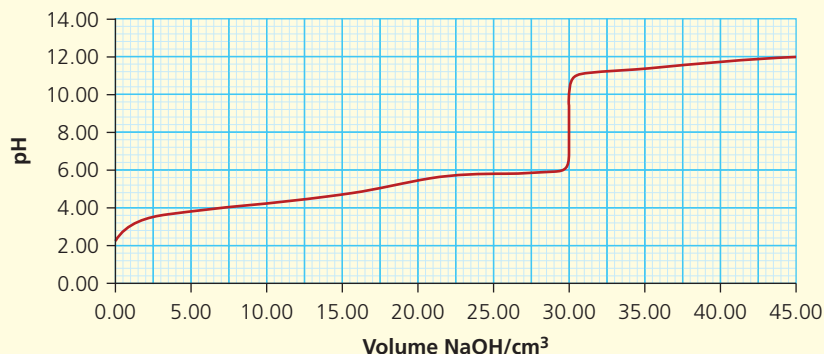

Figure 35 A titration curve
- v The pH curve for this titration is shown in Figure 35. Calculate the value of the concentration in  $\text{mol dm}^{-3}$  of the aqueous sodium hydroxide.